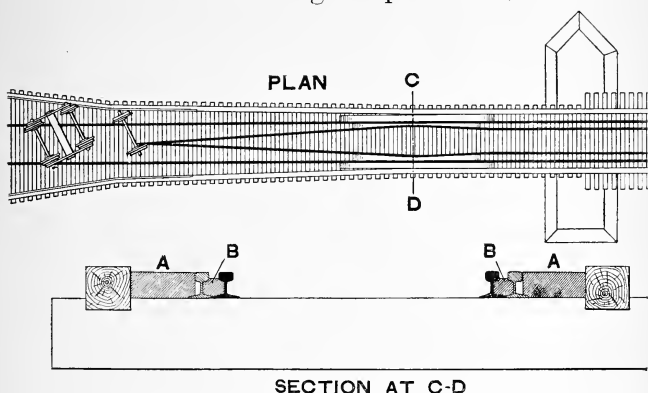

FIG. 50.—Bridge-approach Re-railing Device.
**Re-railing.** In fig. 50 it is proposed to re-rail a pair of trucks which have left the rails, first by forcing them into the straight position by means of the outside guard timbers (which are shod with iron plates) and the inside guard rails; then, by means of the castings A and B, to raise the wheels so that those outside will be carried up to the top of the rails and gradually pulled into place. The inside guard rails are often finished off and brought together some distance from the bridge with an iron